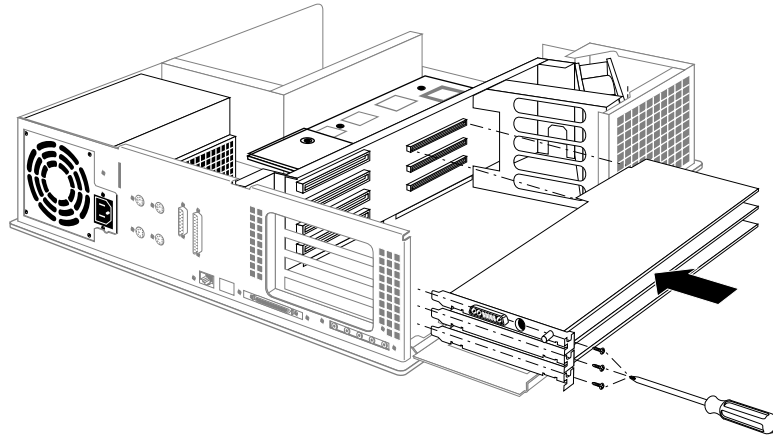

Figure 2-21 Installing Graphics Boards
11. Install the graphics boards (Indigo² only) and any EISA boards that you removed from the system. See Figure 2-21.